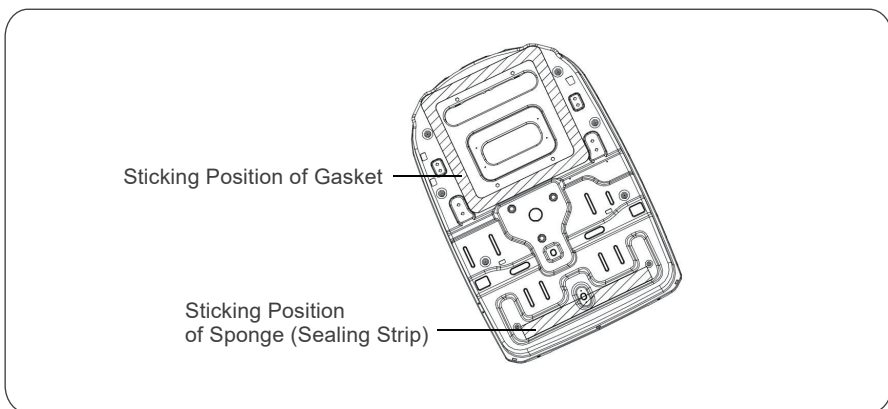

Figure 3
- Clean up any debris at the sticking position of the chassis (as shown in Figure 3) on the outdoor unit to ensure that the sticking position is clean.